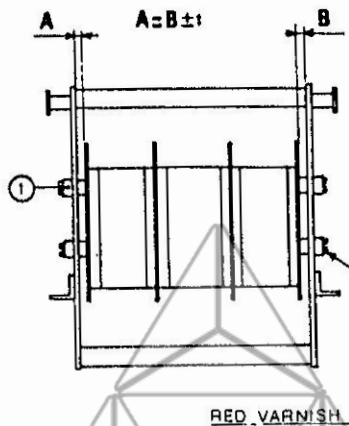

Fig. 7
4. Breaker Element Pole Assembly (Fig. 7)